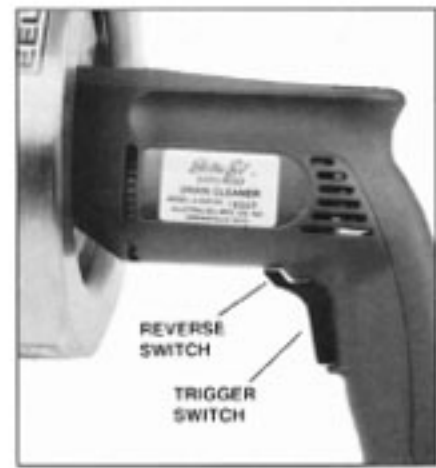

Figure 3
**CAUTION:** Make sure TRIGGER SWITCH on tool is OFF, (see Fig. 3). Make sure that you are plugging into a household 120 Volt ground fault interrupter circuit.
1. Squeeze TRIGGER SWITCH (Fig. 3), to start motor. Release trigger switch to stop motor. The motor speed will increase the more the trigger switch is squeezed.
2. The REVERSING SWITCH is located above and in front of the trigger 1. switch, (see Fig. 3), and changes the direction of rotation of the cable.